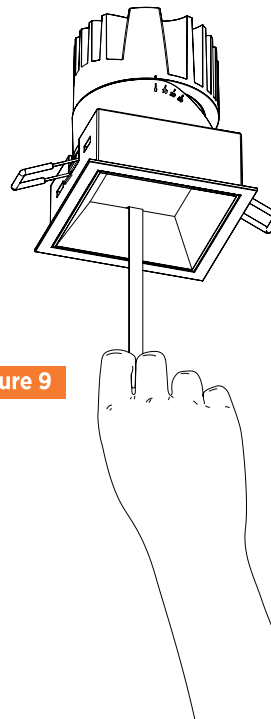

Figure 9
9. To remove the trim, use the provided tool. Slide the tool tip between the lens and the trim as shown in figure 9.